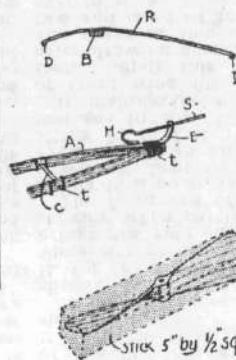
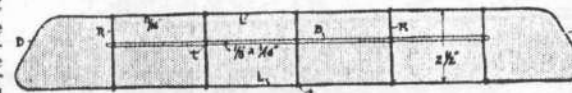

Fig. 5. Construction of Parts.
Fig. 4. The Wing Frame.
**T**HE rubber motors are bundles of three-sixteenths inch wide rubber strands, enough used to make the bundle about one-fourth inch in diameter. These are fitted to a small hook (h) Fig. 4, at one end, and at the other slip over the hook H of the propeller shaft shown in Fig. 3. They should not be stretched but allowed to hang several inches loose when unwound. It is the twist of the bands, not the pull, that gives the power. To have them pull would only twist the frame. Rubber binders looped end-to-end can be used for experiment.
Figure 4 shows the front end of the frame, showing the binding and the way the end wire E is bent to take the hooks from the rubber band motors after they are wound up.
Figure 5 explains the wing construction, and shows how the ribs are bound in place to the spars, and how the bamboo end-piece fits on.
The front end of the frame is tied together in a point, but includes in the tying a wire E, bent as shown, with the small eyes, a half an inch out from the frame sticks F, to fasten the rubbers to. This you see in Fig. 4.
Figure 3 is a detail of the main frame of the machine. Figure 4 shows the framing and structure of the wing which is shown in section in Fig. 5. Fig. 5 also shows the method of fastening the propeller bearings and also how the propeller itself is cut from
The wing frame is put together by tying with silk thread, a drop of shellac or glue, making the joint permanent after tying. All of this is shown in Fig. 4, although the wing section is shown in the upper section
of Fig. 5. This wing is fastened on top of the main frame by means of a rubber band looped under the plane over the wing and down under the plane again, forming a flexible connection which will save many a broken wing in landing and which also allows a wing adjustment for varying flight.